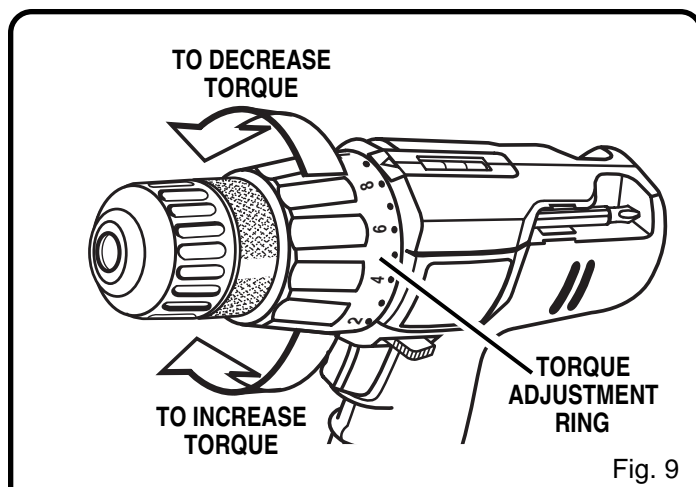

Fig. 9
The torque is adjusted by rotating the torque adjustment ring. See Figure 9. The torque is greater when the torque adjustment ring is set on a higher setting. The torque is less when the torque adjustment ring is set on a lower setting.
- Identify the twenty four torque indicator settings located on the front of your drill. See Figure 9.